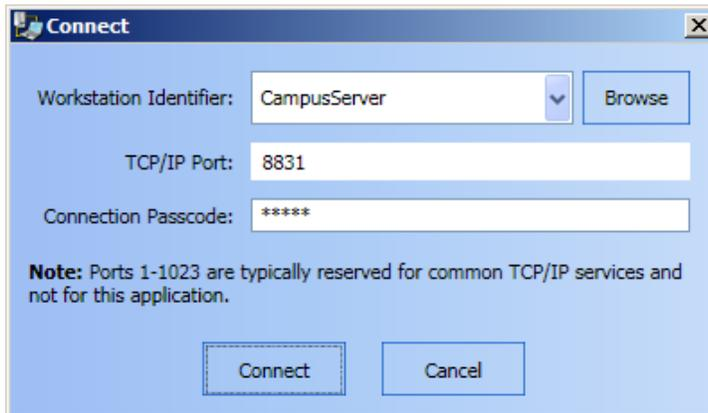

Figure 13-3 Connect Dialog Box
3. In the **Connect** dialog box (Figure 13-3), you enter a TSW PC identifier (IP address or computer name), a port number, and a connection passcode to link the Remote Client PC to the TSW PC and download the job information. Click on **Connect** to proceed.